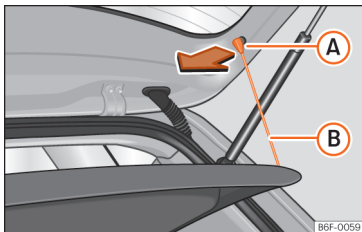

Fig. 174 In the boot: removing and installing the shelf.
- Detach the cord loops >>> Fig. 174 **B** from their hooks **A**.
- Attach the securing straps >>> Fig. 174 **B** onto the rear lid.